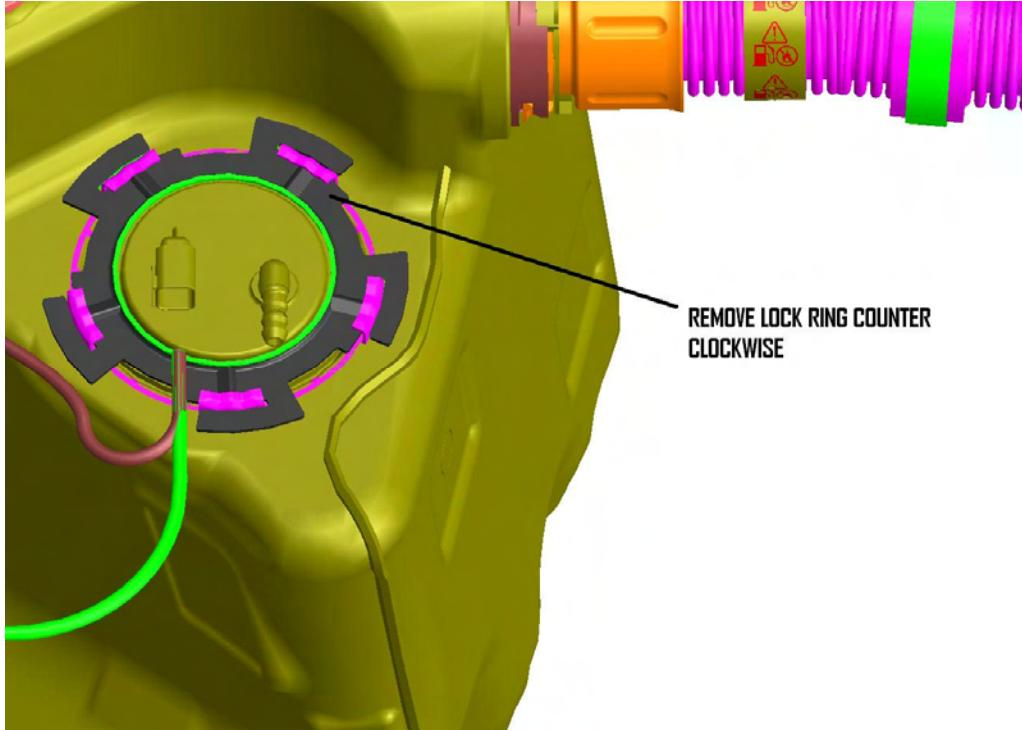

FIGURE 1-6
15. Next you will start on the Driver Side tank. Remove the lock ring from the top of the tank. This unit is also spring loaded and will pop out of the tank once the lock ring is removed. **Note the orientation of the float arm. This must be duplicated when placing the Aeromotive unit in the tank. FIGURE 1-6**